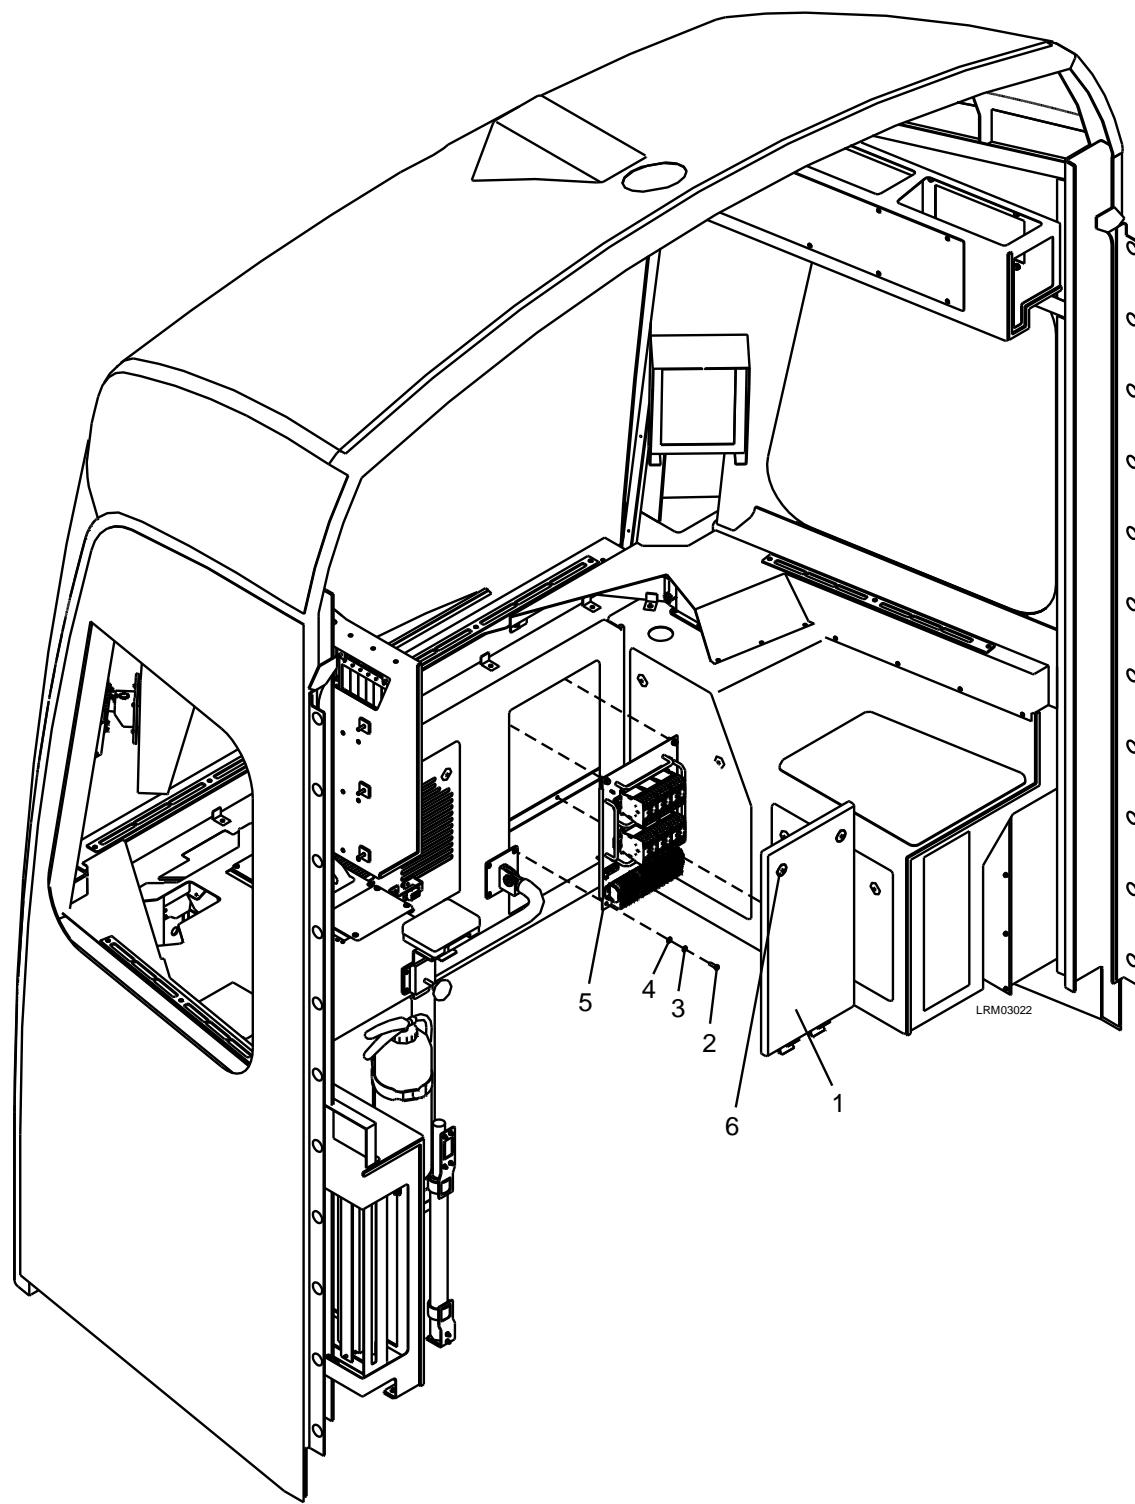

Figure 7-18: Heater Defroster Panel
1. Unlock the two locks (6) and remove the cab access panel (1). See Figure 7-18.